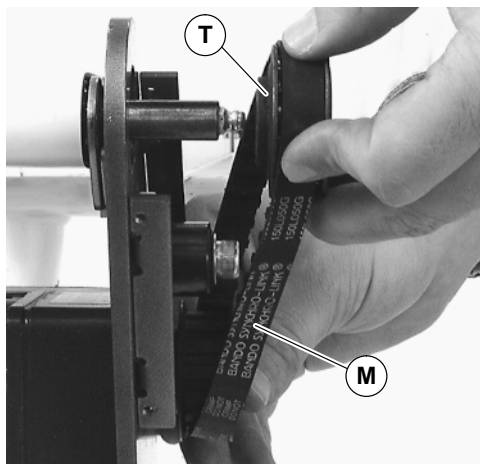

Figure 15
NOTE: If timing belt does not slide over pulley flange, loosen driven pulley set screws (T of Figure 15) and remove pulley with belt (M). For re-installation, see steps 5 through 8 on page 5.